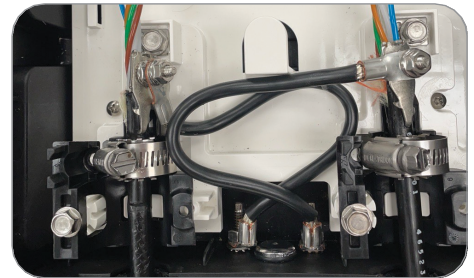

Figure 20
4. After installing the cable in the closure, the grounding strap can be attached to the bonding hardware. **(Figure 20)**